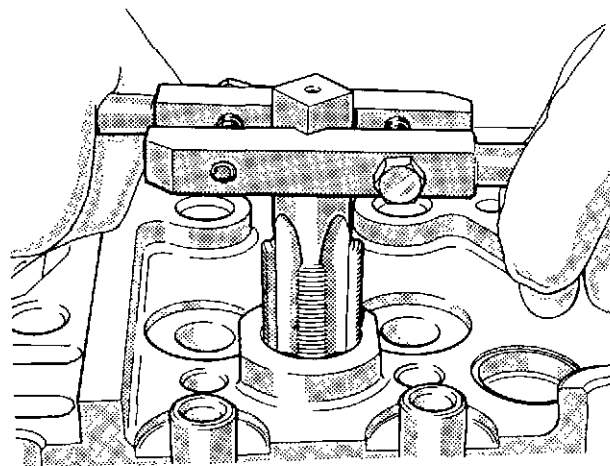

Fig. 13 Tapping injector sleeve
- 57 Using the Tap, GA 5023, cut a thread in the sleeve (fig. 13), to a depth of at least 25 mm (1 inch).